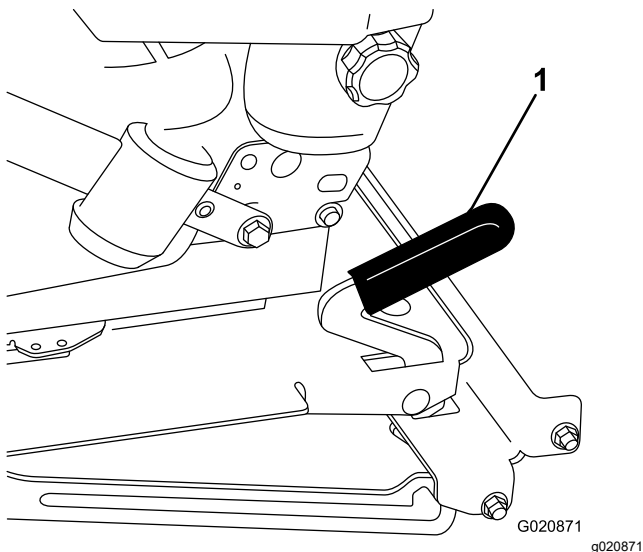

Figure 15
2. Pull the seat latch forward and lift up to unlatch the seat (Figure 15).